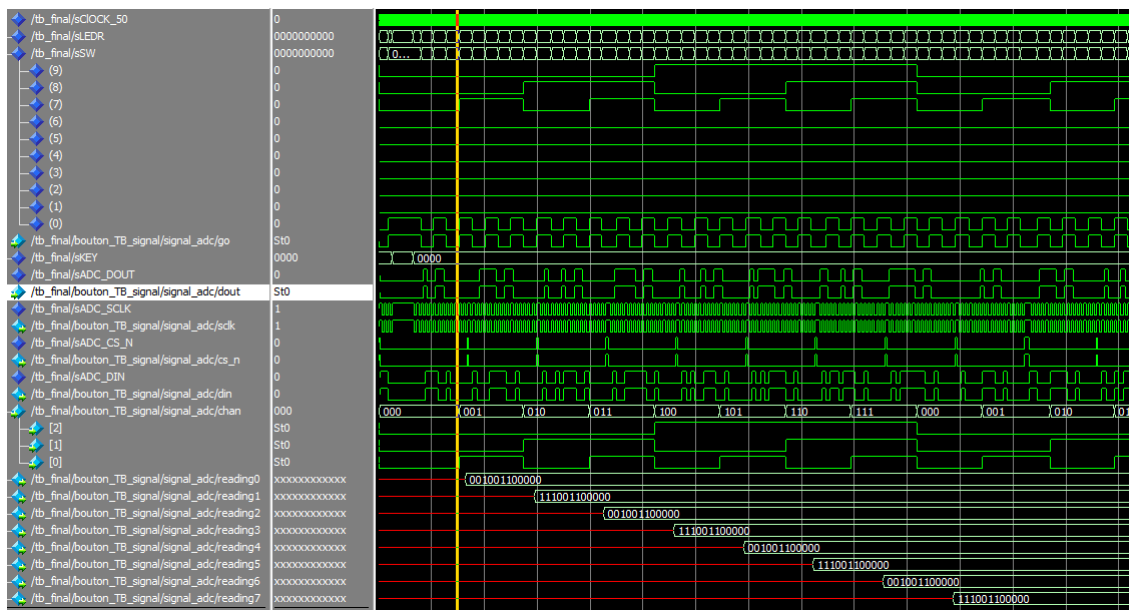

Figure 4.2: Simulation of the application
The very first thing we want to check with the simulation is that the switches work and change the channel. On figure 4.2, the signal "sSW", associated with the switches, shows that the values of "sSW"(9 to 7) is in accordance with "chan". This means that the switches properly change the channel, just like we wanted. We also find the same behaviour as in the previous simulation (the channel change occurs on the next "CS\_N = 0") and confirm that the channel and the "readings" are coherent (000->reading0, 001->reading1, ...). We can also verify that "GO" is properly activated by "sSW"(0) and is in accordance with the signal "go".